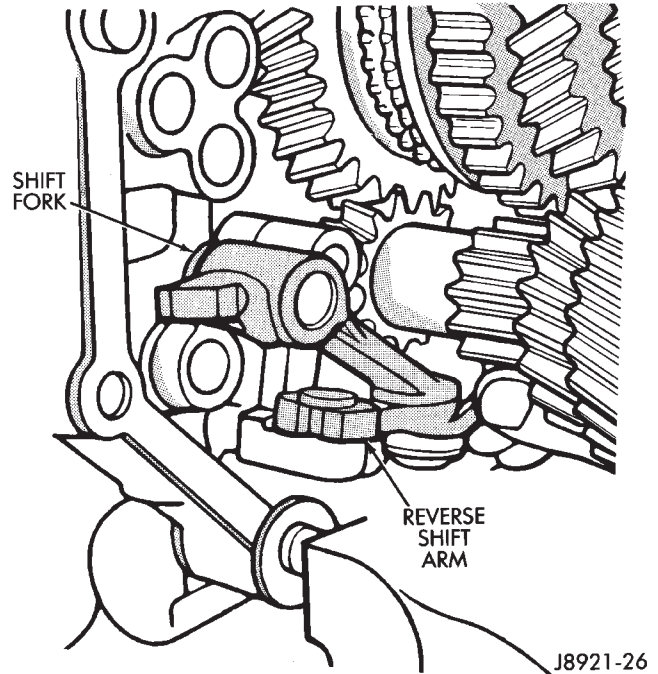

Fig. 18 Reverse Shift Arm Removal
(12) Remove reverse shift arm and fork (Fig. 18).